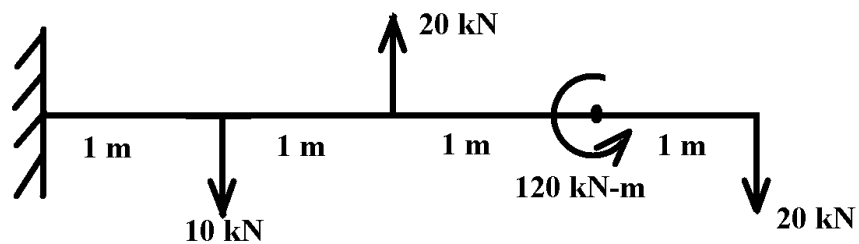

Figure 3b
- b) A cantilever beam of length 4m is subjected to loads as shown in figure 3b. Draw SFD and BMD (indicate the values in the diagram). Locate the point of contraflexure if any. Also find the reactions. 12